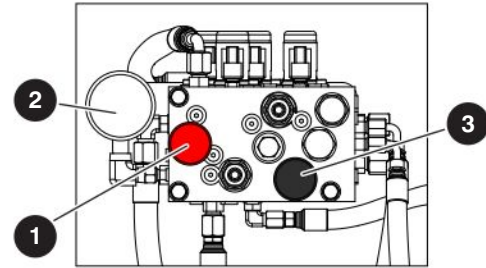

Figure 30 Brake manifold
6. Anchor down MEWP to transport surface using tie-down points (refer to Figure 30).